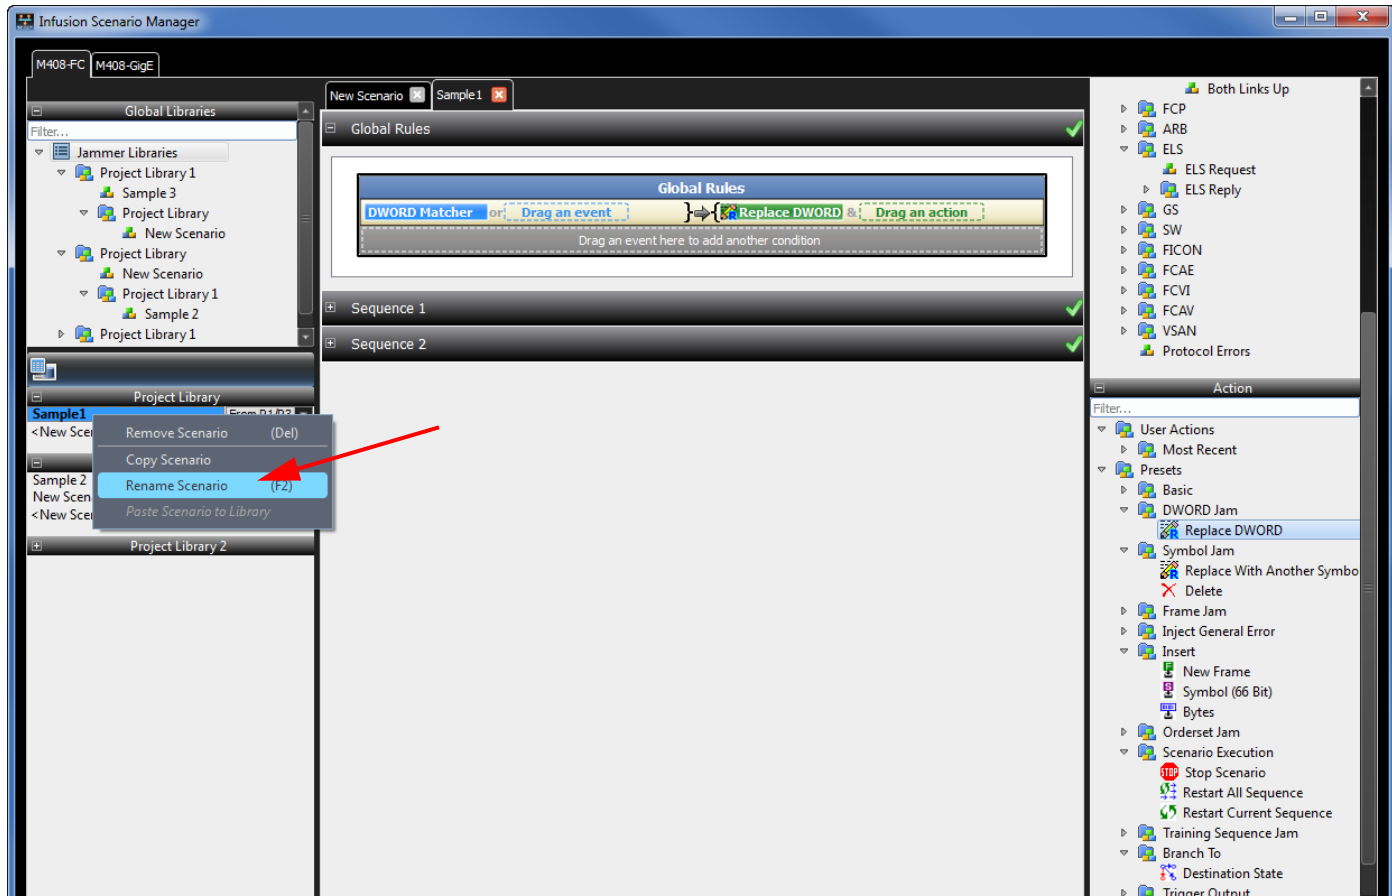

Figure 4.33: Global Rules - Naming a Scenario
4. The Event is added to the Global Rules panel (see Figure 4.33 on page 211).
5. Select **Replace DWORD** in the Action panel and place it in the Global Rules panel (see Figure 4.33 on page 211).
6. Right-click the New Scenario tab and select **Rename Scenario** and enter the name in the Library panel as shown in Figure 4.33 on page 211